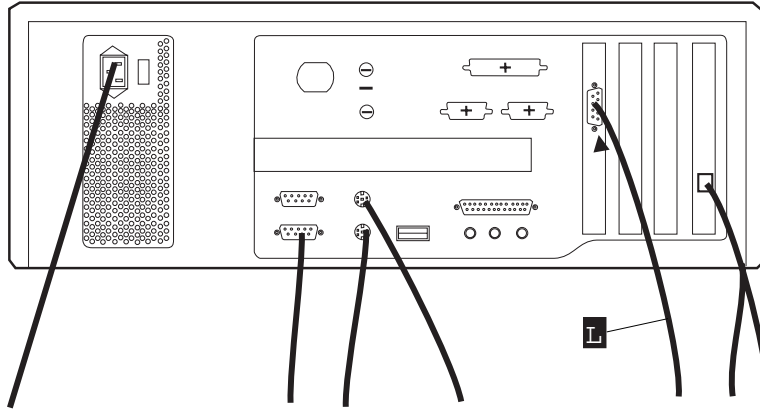

Figure 6-15. Display Connection to the NAS
4. At the rear of the rack, connect the display signal cable **L** to the NAS connector (see Figure 6-15).